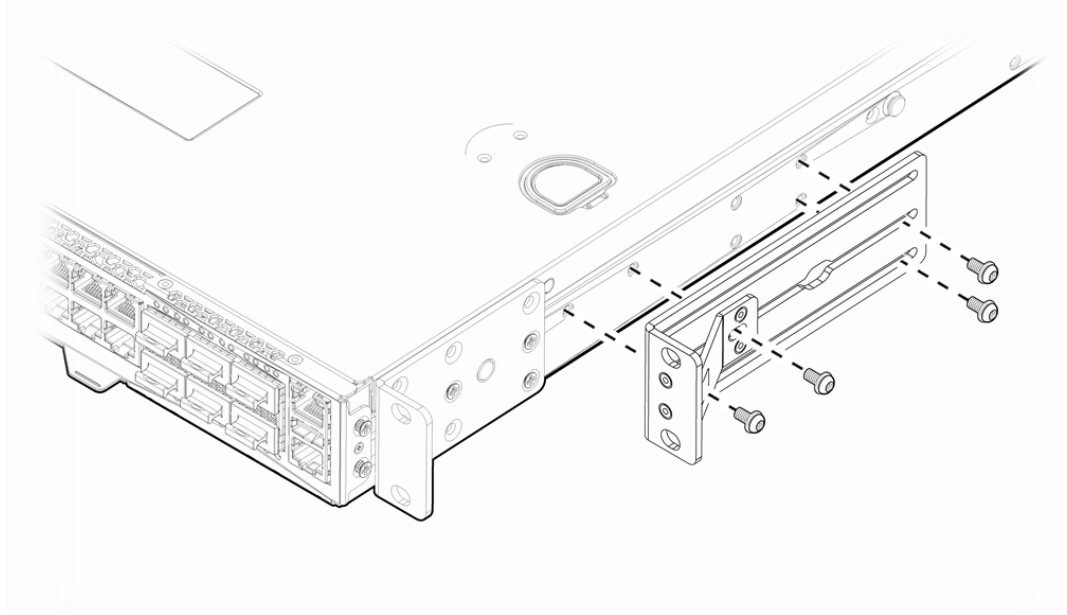
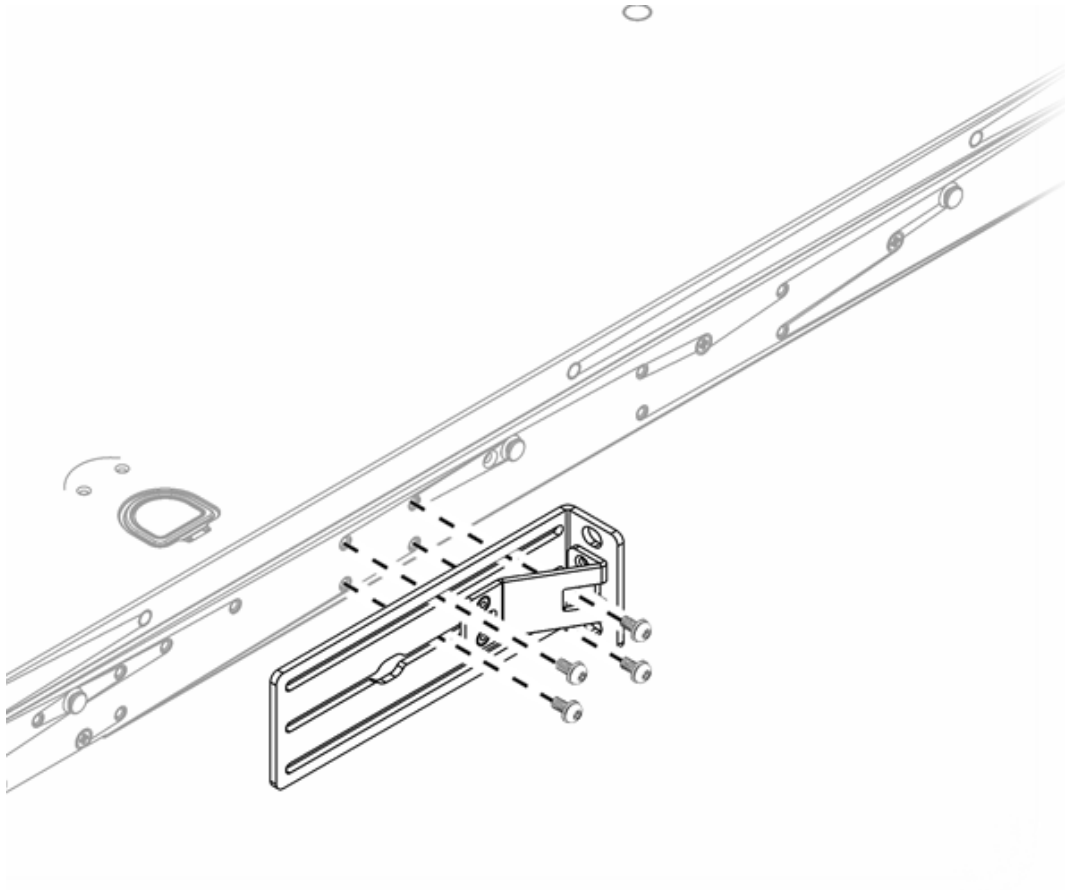

Figure 18: Attaching a Long Mounting Bracket: Front of Switch
Figure 19: Attaching a Long Mounting Bracket: Middle of Switch
- a. Position the long bracket over the holes between the front and the middle of the switch. Orient it so that its flange (ear) rests against the rack post. See Figure 18 and Figure 19.